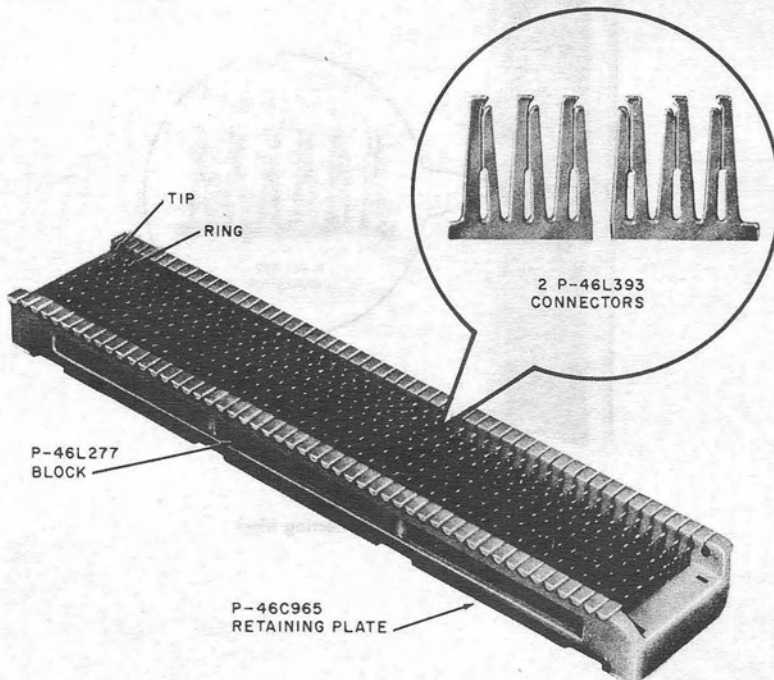

Fig. 1 — 66B3-50 Connecting Block
2.01 The 50-pair 66B3-50 connecting block (Fig. 1) consists of 50 horizontal rows of quick-connect